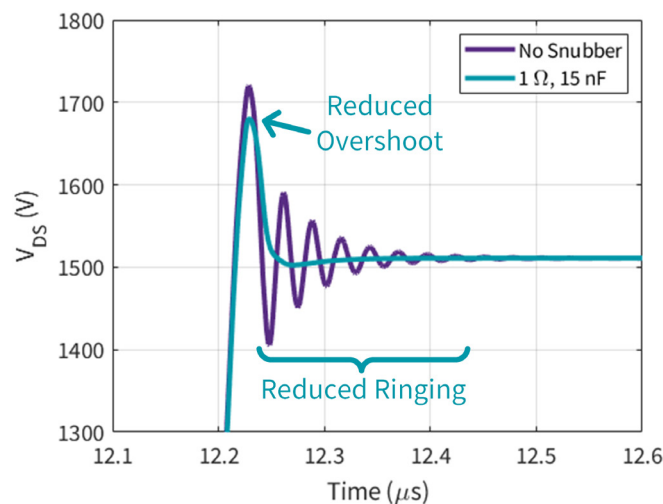

Figure 27: Simulation comparison with and without a snubber circuit
These features together minimize the PCB inductance of the design and reduce the device V_{DS} overshoots. Even with these features, some customers still prefer to use snubber elements to further reduce the risk of overshoot and ringing. The CRD200DA23N-GMA includes a resistor-capacitor (RC) snubber circuit placed very close to the power module terminals to create a dissipative shunt path for high-frequency energy. When sized appropriately, an RC snubber can reduce a power module's maximum overshoot voltage and damp oscillatory ringing. Figure 27 shows the influence on device V_{DS} of a CAB5R0A23GM4T half-bridge power module in an Analog Devices® LTspice® double-pulse test (DPT) simulation. The simulation was performed at a bus voltage of 1500 V and a load current of 167 A. The introduction of the snubber elements reduces both the overshoot and the oscillations significantly. For more information about the DPT simulation for evaluating performance in different operating conditions, visit <https://www.wolfspeed.com/tools-and-support/power/ltspice-and-plecs-models/>.